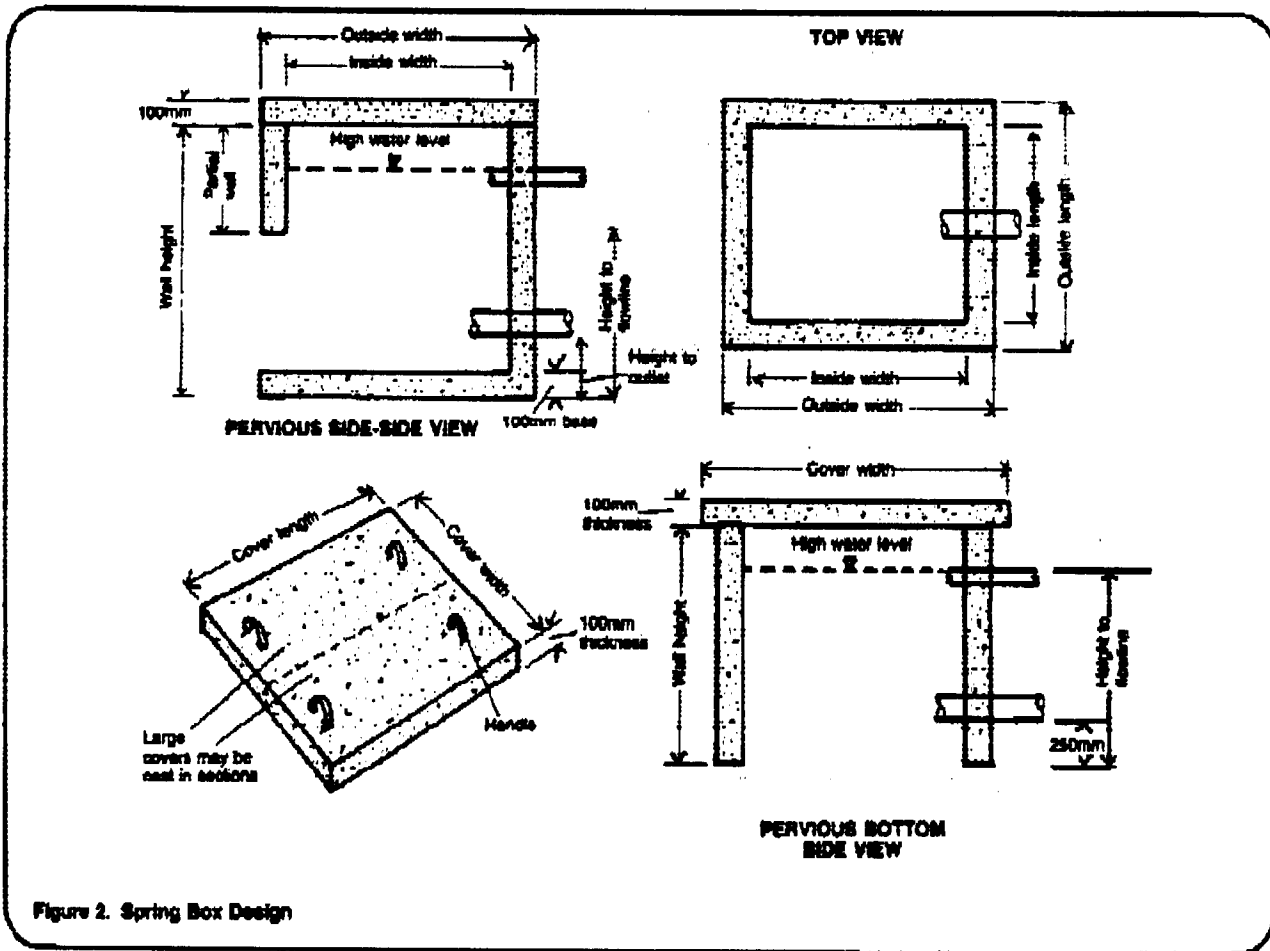

Figure 2. Spring Box Design
3. A plan of the spring box with all dimensions as shown in Figure 2. This plan shows a top, side, and front view, and the dimensions of a cover for a spring box 1m x 1m x 1m.